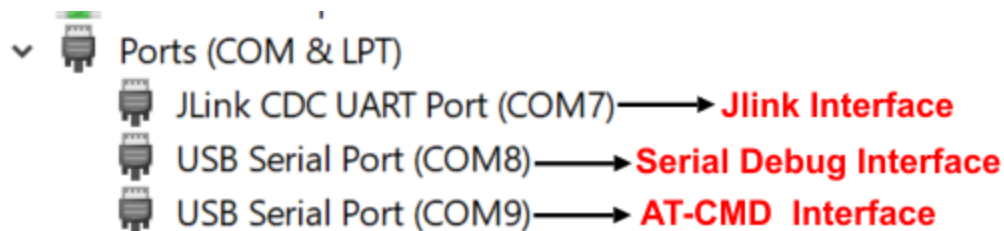

Figure 16. Windows – COM ports
- For Windows, three USB Serial COM ports are displayed in the device manager (see Figure 16).